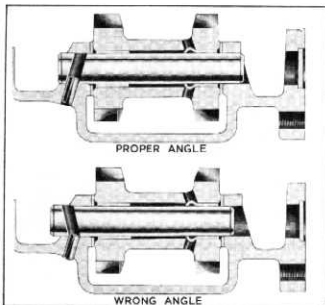

Fig. 15—Reverse Idler Shaft and Lock Pin
2. Install the idler shaft, making sure that the lock pin hole in the shaft lines up with the hole in the case at the same angle (fig. 15).